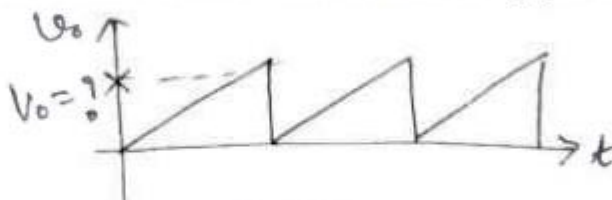

Fig.Q9(c)
c. Calculate V_0 of sawtooth wave (with respect to DAC interface) with the following program. Assume $R_F = 5$ K Ω in I/V converter in DAC circuit interfacing. [Refer fig.Q9(c)]